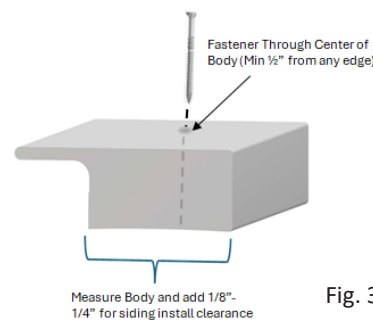

Fig. 3
2. Measure the body of the trim and add 1/8" - 1/4" to ensure clearance between the top of the siding panel and the base of the trim pocket (Fig 3).
- a. Finish nail, decking screw or Cortex screw (with matching plug) into the center of the main body of the trim, no less than 1/2" from any edge or end (Fig 3).